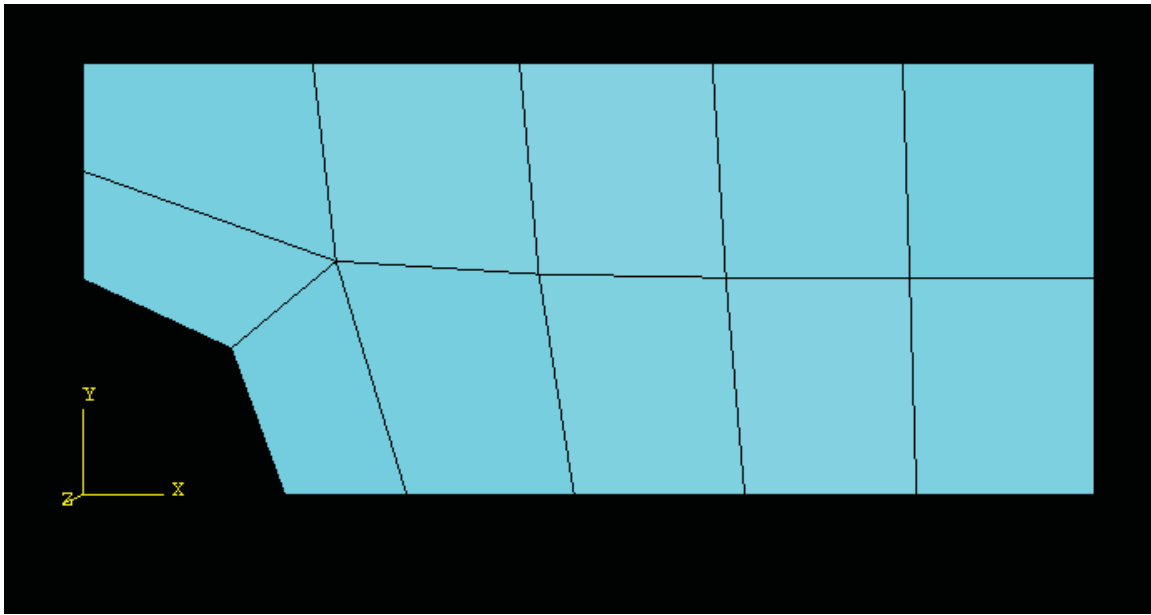

Figure 5-5 The meshed plate with.
5. From the buttons in the prompt area, click **Yes** to confirm that you want to mesh the part instance. You will get a meshed geometry as shown in Figure 5-5.